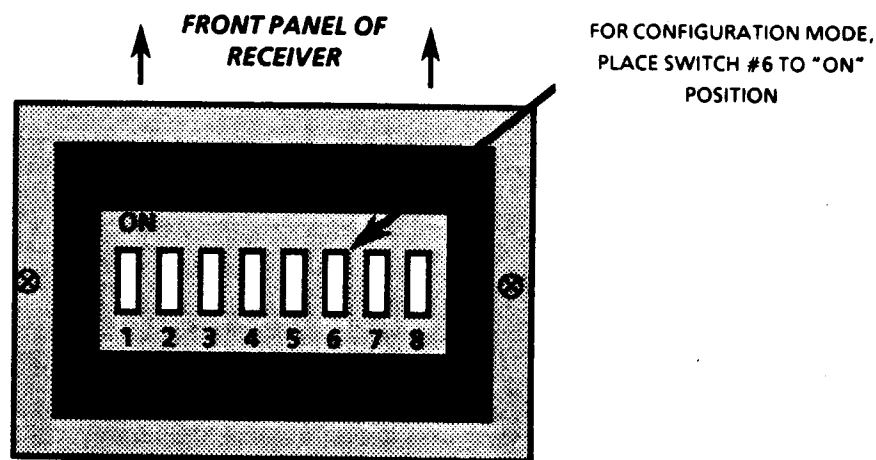

Figure A-2. Receiver Configuration Switch Location
3. Activate the Configuration Mode by placing switch #6 of the exposed DIP switch into the ON position (Refer to **Figure A-2**).